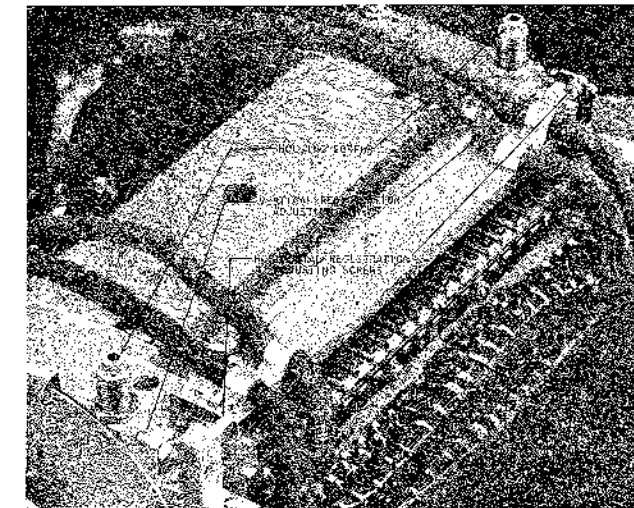

Figure 51. Punch Unit Adjusting Screws
1. Remove the four top holding screws for the punch unit (Figure 51).
- a. Loosen the four holding screws on top of the punch unit (Figure 51).
- b. Loosen the locknut on the horizontal adjusting screw and turn the adjusting screw in the proper direction to permit shifting the punch unit in the direction required to correct the horizontal registration (Figure 51).